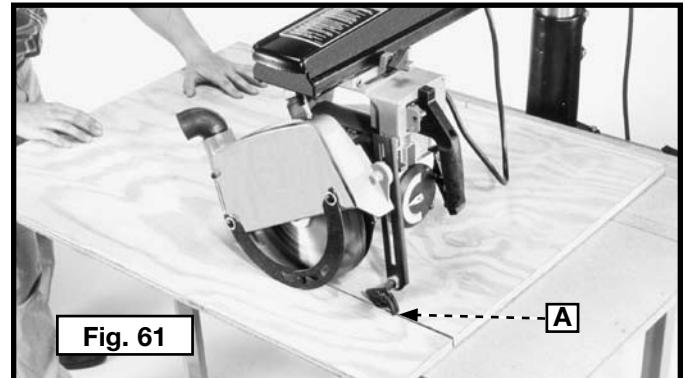
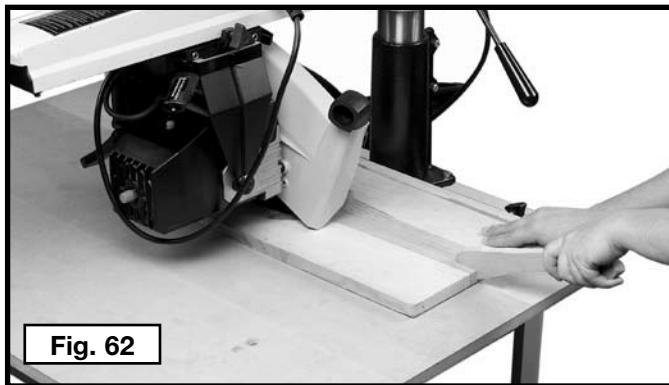

Fig. 61
Fig. 62
Ripping involves making a lengthwise cut through a board along the grain. Clamp the track arm at "0" on the miter scale. Position and clamp the yoke so that the blade is parallel to the fence in either the in-rip or out-rip position. When feeding the workpiece, make sure that one edge rides against the fence with the flat side resting on the table. Lower the guard on the in-feed side until it almost touches the workpiece (Fig. 61) to act as a holddown. Adjust the splitter and anti-kickback fingers (A) Fig. 61 as described under the section "**ADJUSTING THE SPLITTER AND ANTI-KICKBACK FINGERS**" in this manual. Keep your hands well away from, and to the side of the blade. When ripping narrow work, always use a push stick (Fig. 62) to push the work between the fence and blade.
Out-ripping is generally the same as ripping except that you clamp the yoke at a right angle to the track arm with the blade guard facing the **FRONT** of the machine. Position the cuttinghead on the out-rip scale to the desired setting and clamp it in position. Feed the workpiece from the left side of the saw. A typical out-ripping operation is illustrated in Fig. 61.
In-ripping is generally the same as ripping except that you clamp the yoke at a right angle to the track arm with the blade guard facing the **REAR** of the machine. Position the cuttinghead on the in-rip scale to the desired setting and clamp it in position. Feed the workpiece from the right side of the saw. A typical in-ripping operation is illustrated in Fig. 62.
**WARNING:** When ripping a workpiece less than 6" wide, use a push stick to complete the feed (Fig. 62).